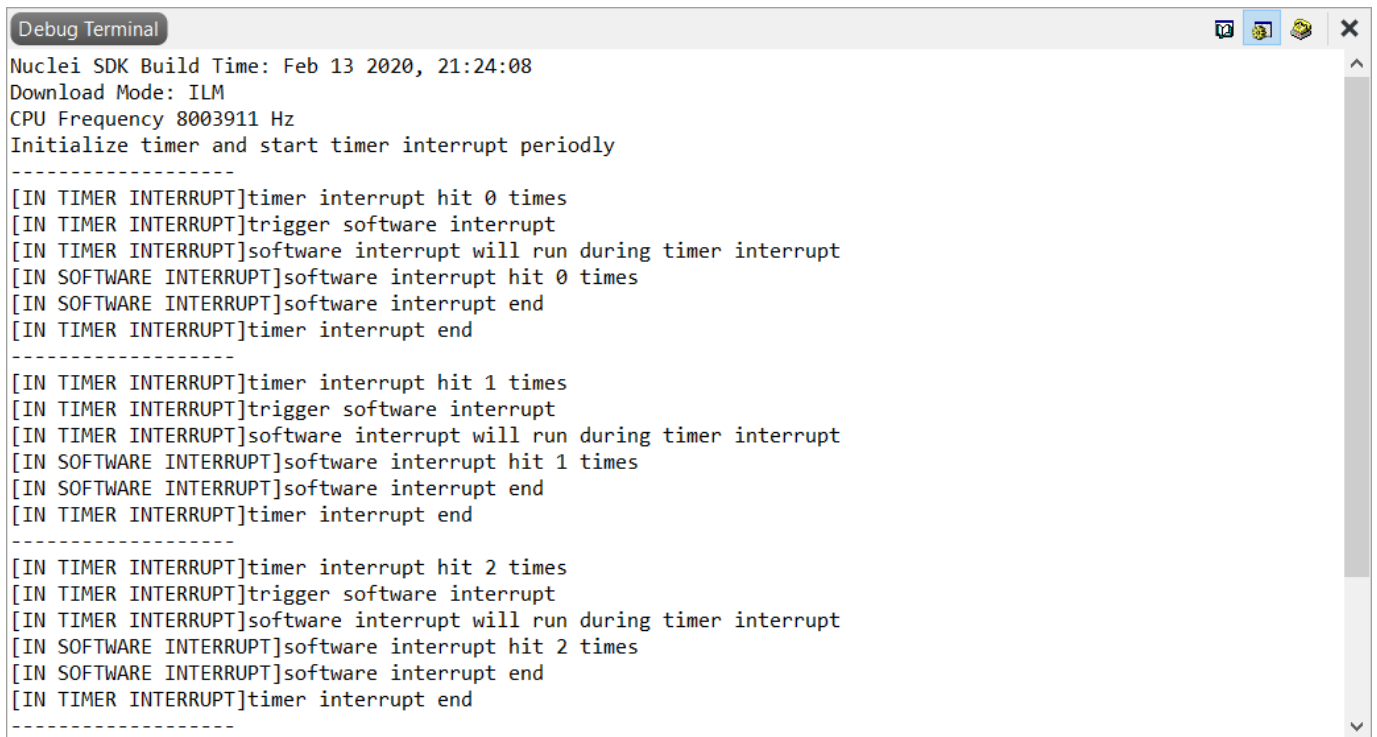

Figure 4-16 The Output of Project demo_eclic through J-Link
After that, user can redirect the output to RTT, and the debug terminal will be opened automatically at runtime. Take demo-eclic project output as an example, use J-Link RTT to output is as shown in Figure 4-16.
- When the program running, if printf function is used, the output can be redirected to PC. Take demo-ecllc as an example, you can see the output as shown in Figure 4-12 (Printout through Serial Port) or Figure 4-16 (Printout through RTT).